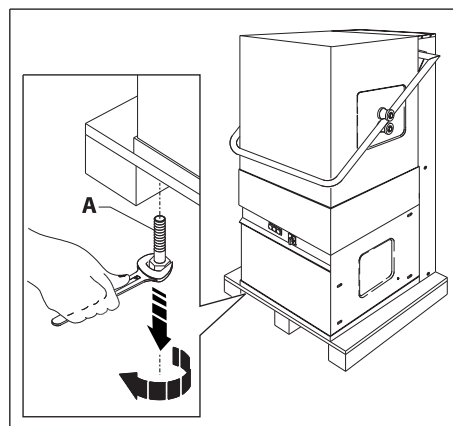

Fig. 3
2. Loosen the two A screws that fasten the dishwasher to the transportation pallet (fig. 3)